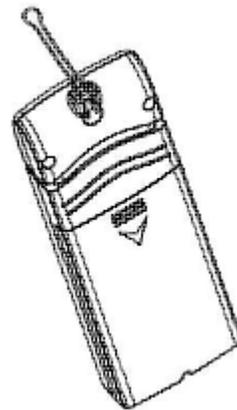

Figure 16
2. Hang the remote sensor up on string, as shown in Figure 16.